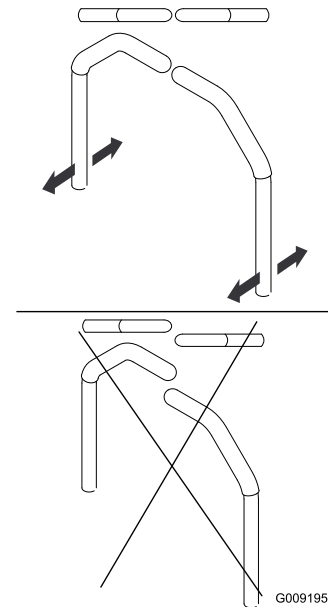

Figure 77
4. Align the levers front to rear position by bring the levers together to the neutral position and slide them until they are aligned, then tighten the bolts (Figure 77).